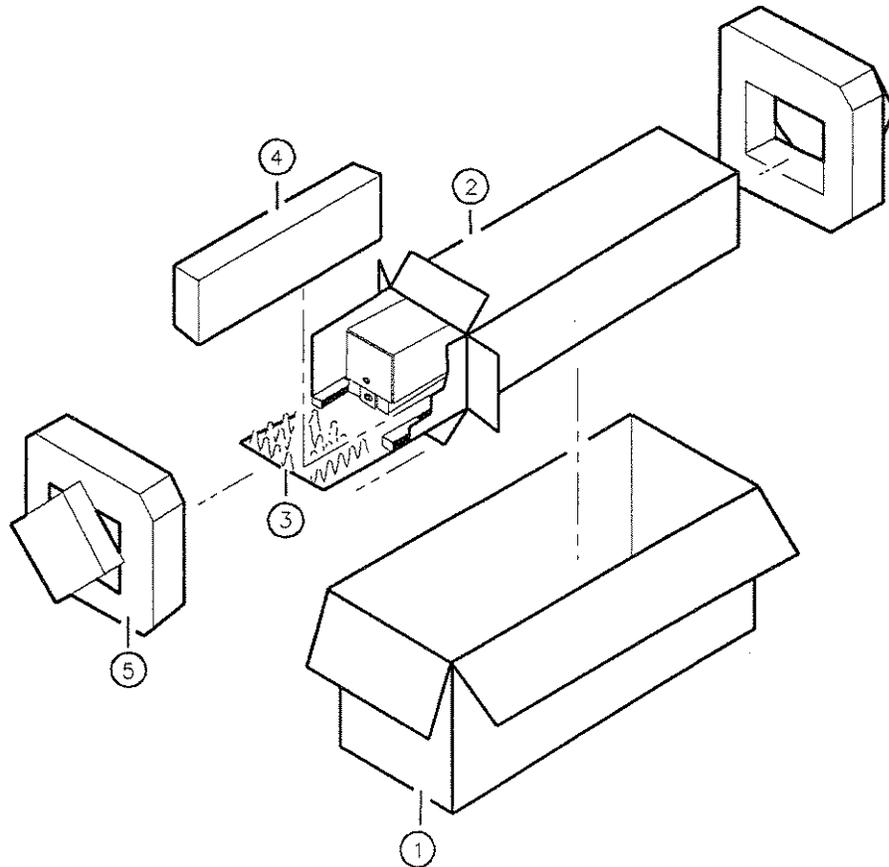

Figure 1-10. Packaging Material for the HP 70205A
The original shipping containers should be used. If the original materials were not retained, identical packaging materials are available through any Hewlett-Packard office. Figures 1-10 and 1-11 are illustrations of the factory packaging material for the two displays.
2. Pack the instrument in the appropriate packaging materials. (See Figures 1-10 and 1-11.) Original shipping materials or the equivalent should be used. If the original or equivalent materials cannot be obtained, instruments can be packaged for shipment using the following instructions.